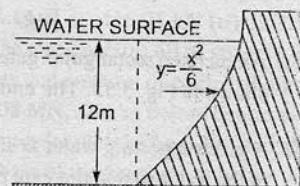

Fig. 3.61
22. Find the magnitude and direction of the resultant water pressure acting on a curved face of a dam which is shaped according to the relation  $y = \frac{x^2}{6}$  as shown in Fig. 3.61. The height of water retained by the dam is 12 m. Take the width of dam as unity. [Ans. 970.74 kN,  $\theta = 43^\circ 19'$ ]